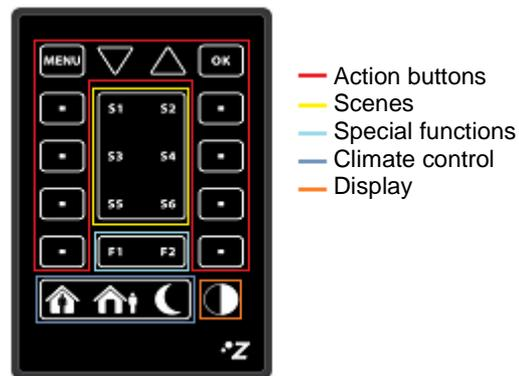

Figure 7. ZAS Remote Control
As shown by Figure 7, the buttons on the first row of the IR remote match those on the first row of the touch panel from ZAS, i.e., **Menu**, **Arrows** and **OK**.
- **Action Buttons only for Page 1?:** this parameter sets if the action buttons of the remote control (see Figure 7) will only control the configuration established for page 1 (option "Yes") or if they will simulate the behaviour of the buttons of all (1-4) the configured pages (option "No").
- **Scene 1-6 (S1-S6):** these parameters allow establishing the scene values (1-64) to be sent to the KNX bus (through "[General] Scene: send") when the user presses the scene buttons on the remote control (see Figure 7).
- **HVAC Mode Buttons:** this parameter allows setting the control type performed by the climate buttons on the remote (see Figure 7). On the one hand, it is possible to enable a **direct control** of the special modes for thermostats 1 and 2, being therefore possible to simulate, with every press, the arrival of a new special mode order to the corresponding object ("[Tx] Special mode"), without linking any group address.